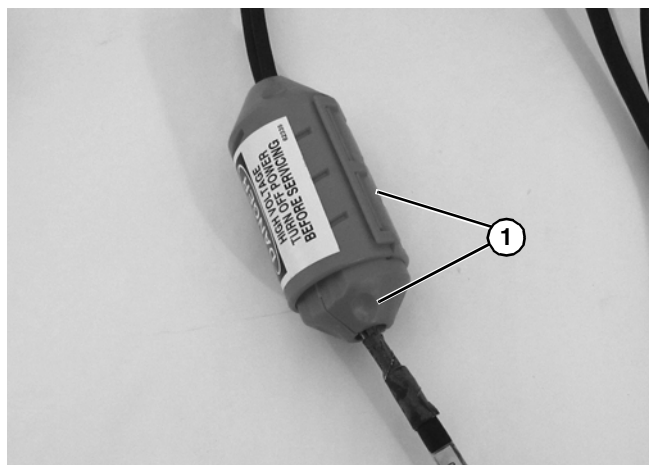

Figure 20
- Twist covers (**Figure 20, item 1**) together, as shown.